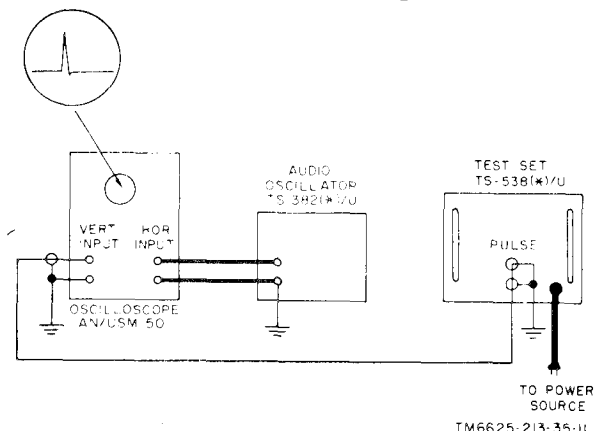

Figure 21. Test Set TS-538(\*)/U, calibration, REPETITION RATE connection diagram.
### 33. REPETITION RATE Calibration (fig. 21)
h. Adjust repetition rate calibration control R3 (fig. 14), until the two signals are synchronized on the oscilloscope. As the blocking oscillator frequency approaches that of the audio oscillator (200 cps), the speed with which the pulse moves across the scope screen decreases. When R3 is properly adjusted, the pulse should be almost stationary. The oscilloscope waveform should approximate the waveform illustrated in figure 21.